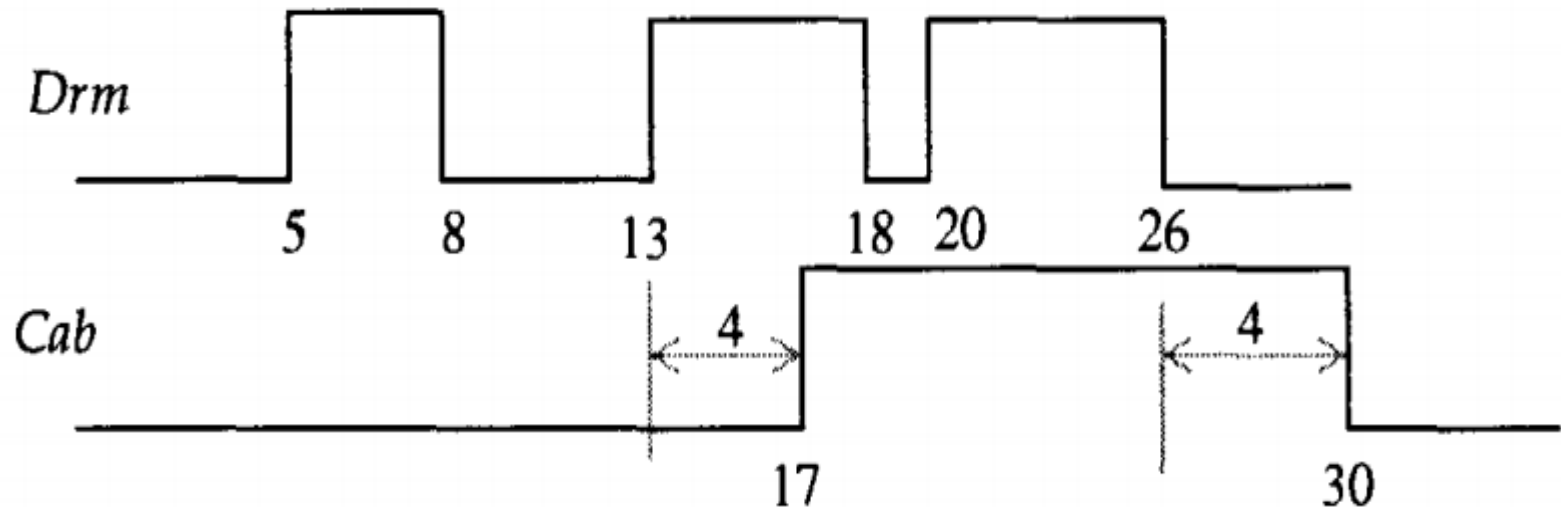

Fig 2: Values changing faster than delay interval.
- Figure 2 shows the effect. The changes on the right-hand side that occur within the delay interval are filtered out.